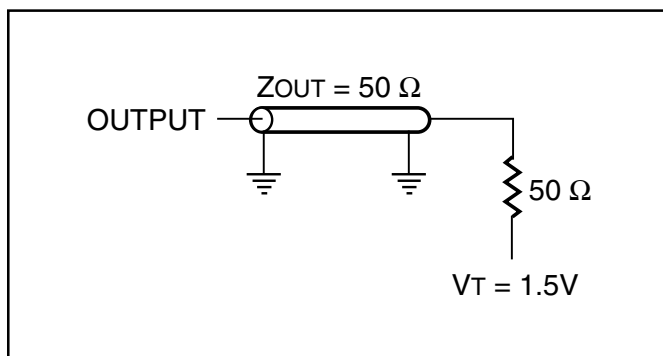

Figure 1
- Test conditions assume signal transition times of 3 ns or less, timing reference levels of 1.5V, input pulse levels of 0 to 3.0V and C1 output loading specified in Figure 1.
- Tested with the C2 load in Figure 1. Transition is measured  $\pm 500$  mV from steady-state voltage. Not 100% tested.